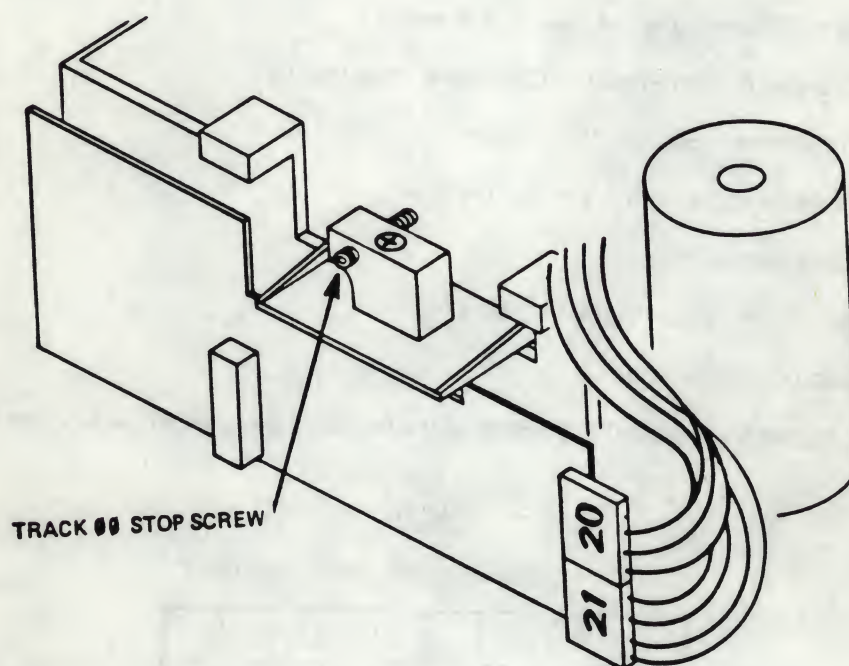

Figure 2-7
- 2.2.3.8 Turn the Track 00 stop screw counterclockwise two (2) turns with a .050" Allen wrench (see Figure 2-7).